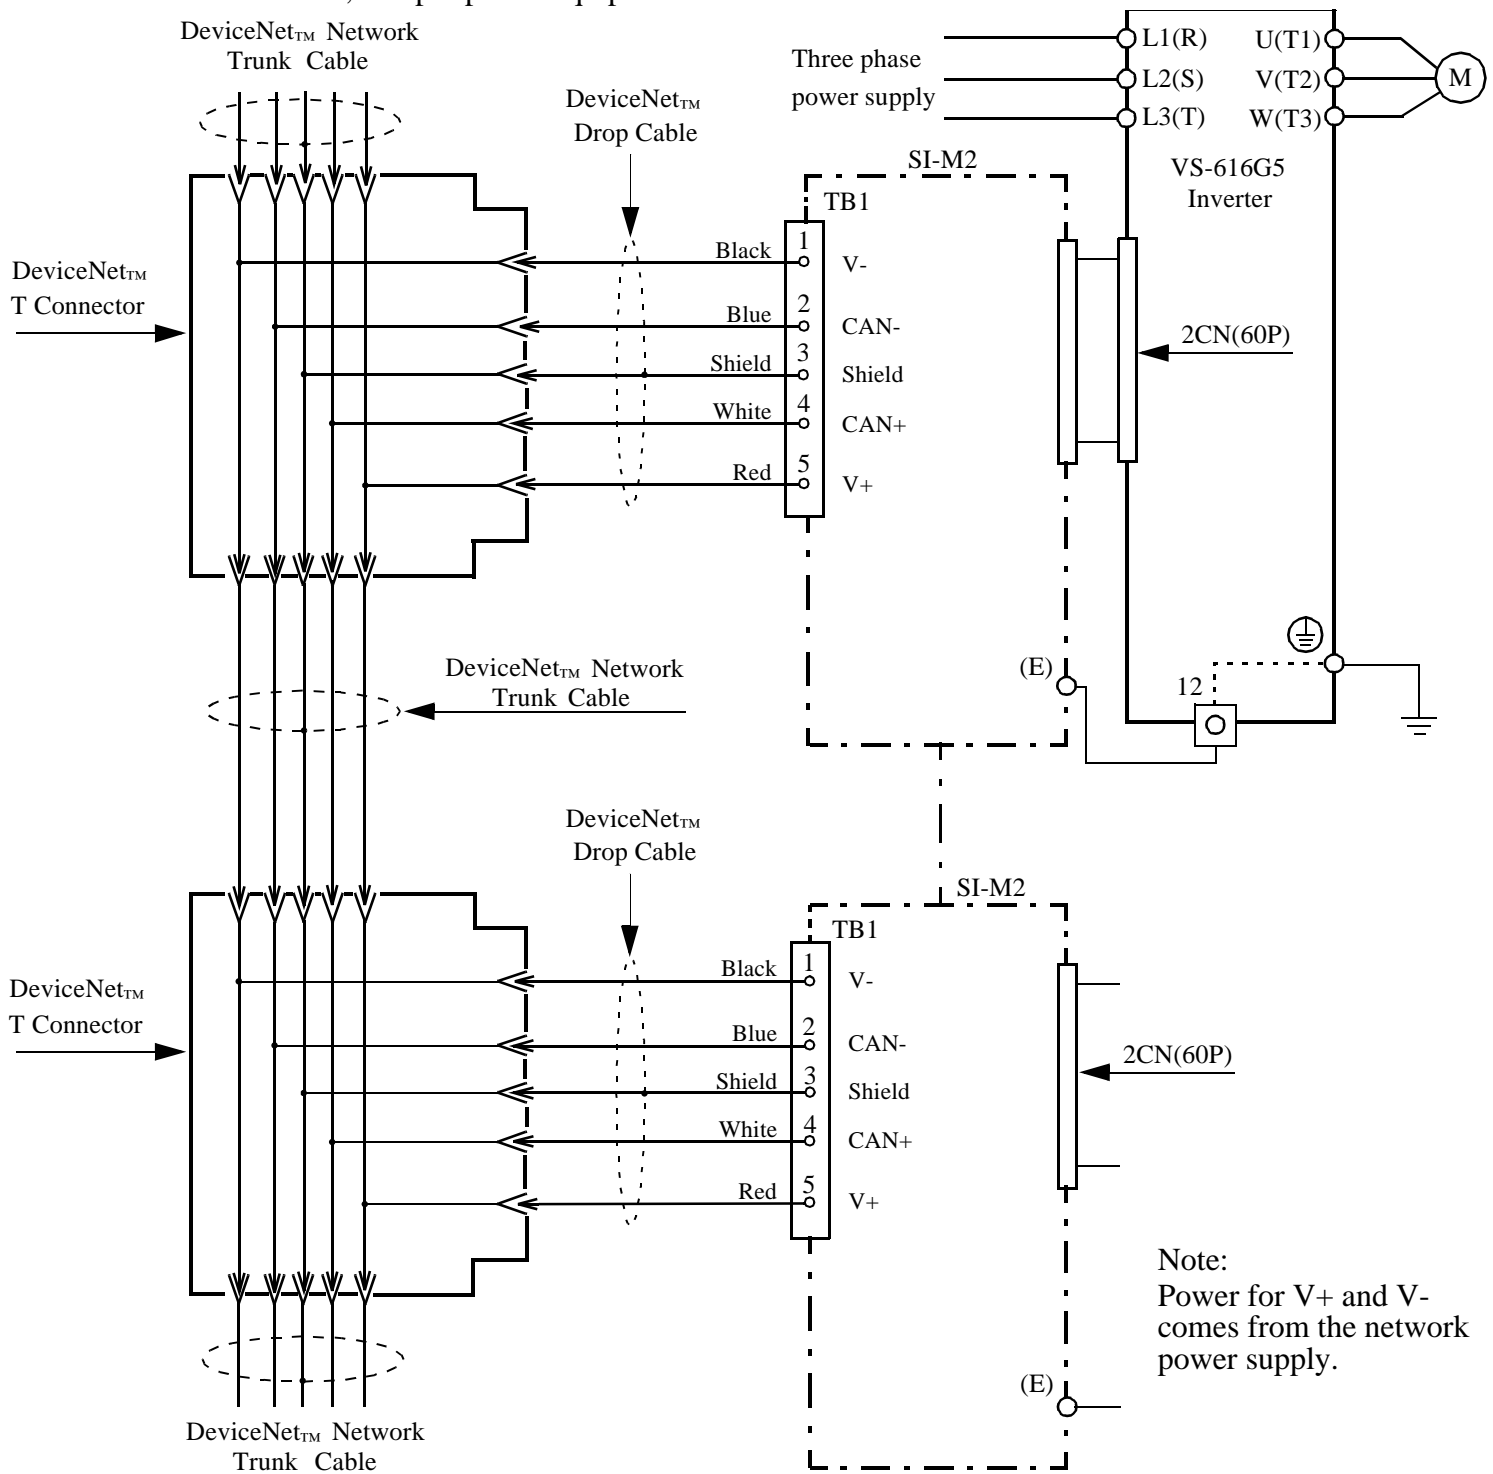

Fig. 3 SI-M2 Interconnection Diagram
13. Replace the inverter's cover. Refer to Fig. 3 for correct wiring of the *DeviceNet*TM Communication Interface Card SI-M2 and the control board.
The *DeviceNet*_{TM} specification states that nodes on the network must be able to be connected and disconnected without breaking the network. This means that the SI-M2 option card **must** be connected to the *DeviceNet*_{TM} main (trunk) cable through a “drop cable” and “T” connector arrangement (see Fig. 3).